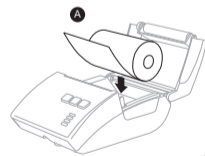

fig. 2
A. Insert the paper roll in the compartment (fig. 2).